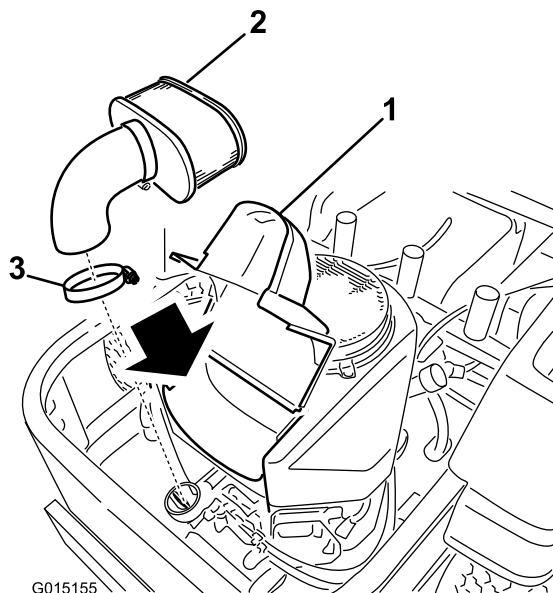

Figure 42
3. Clean around the air cleaner cover to prevent dirt from getting into the engine and causing damage. Lift the cover and remove the hose clamp securing the air cleaner assembly to the engine (Figure 42).
4. Loosen the hose clamp and remove the paper element (Figure 42).